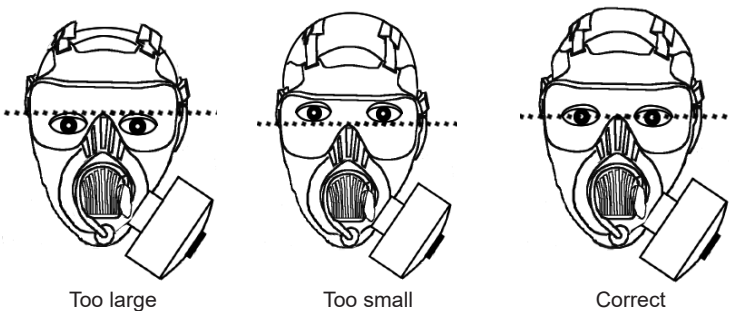

Fig 3: Eye Level Assessment
- The center of the pupil of the eye should ideally be at or slightly above the horizontal centerline of the lens (see Fig 3). If the eyes are in this position the correct size of Respirator has been selected.